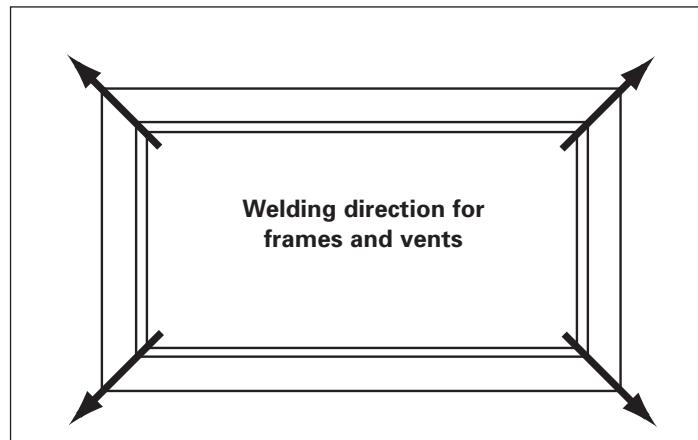

Fig. 161 Welding direction from inside to outside
1. From inside to outside for frames and mitred vent corners (Fig. 161 to 168)